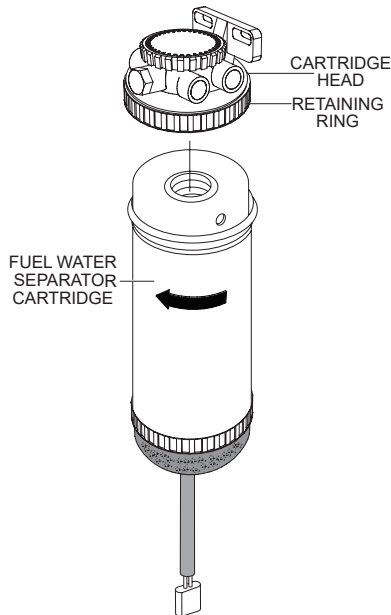

Figure 65. Fuel Water Separator
1. Using a **filter wrench**, remove the **fuel water separator cartridge** (Figure 65) from the **cartridge head**.